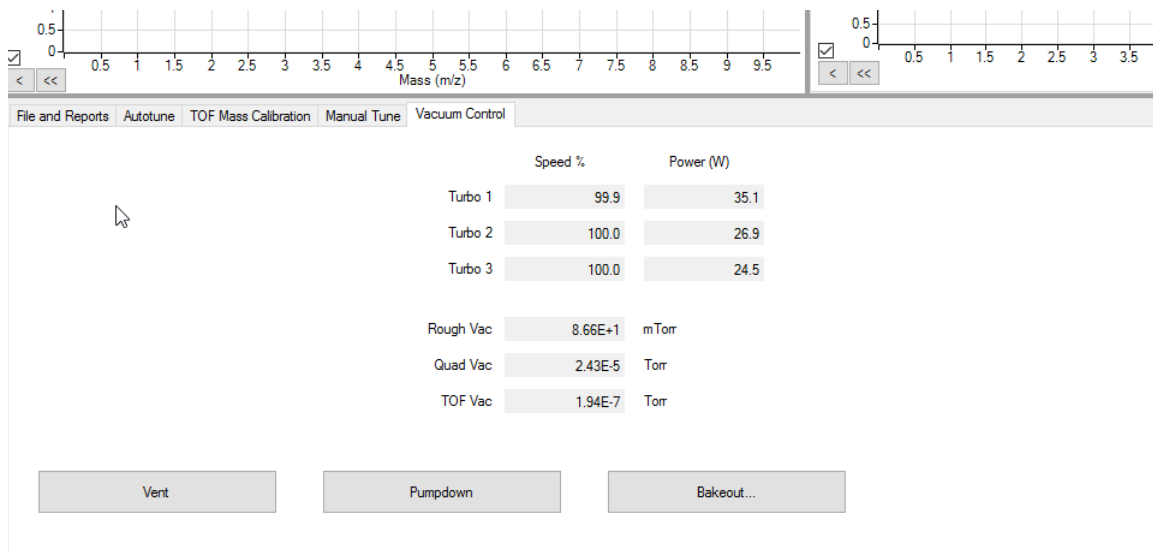

Figure 16. Vacuum Control tab
- 6 Click the **Vacuum Control** icon  from the **Instrument Control** panel to monitor the instrument during the pumpdown. (See Figure 16, "Vacuum Control tab," on page 56.)
- Within 10 to 15 minutes, the turbo pump speed should be up to 80%. (See Figure 16.) The pump speed should eventually reach 95%. If these conditions are not met, the MS electronics will shut off the foreline pump. In order to recover from this condition, you must power cycle the MS. If the MS does not pump down correctly, see the manual or online help for information on troubleshooting air leaks and other vacuum problems.
- 1 Click the **Vacuum Control** icon  from the **Instrument Control** panel. (See **Figure 16**, "Vacuum Control tab," on page 56.)